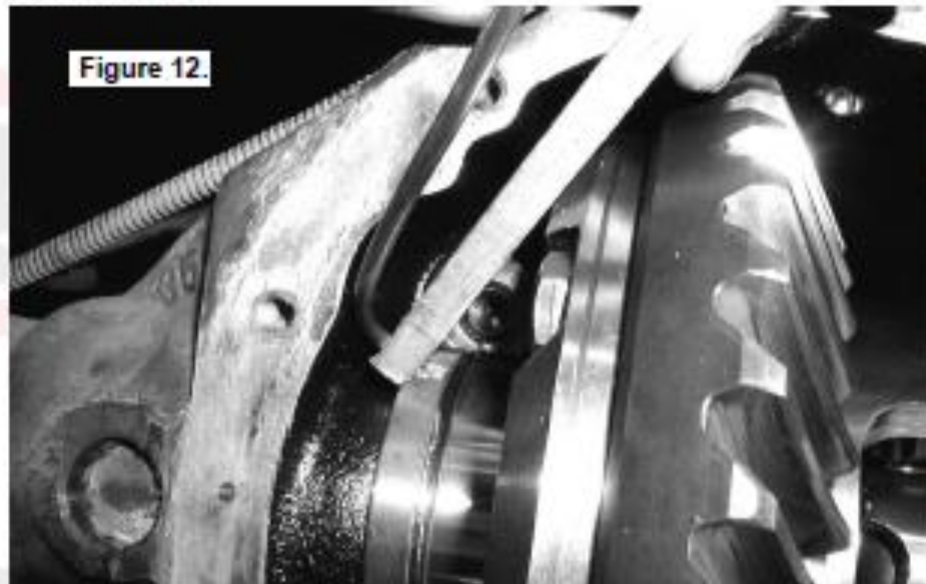

Figure 12.
- ☐ Using a soft instrument such as a wooden drift, bend the seal housing tube outward and away from the position of the bearing cap. (Fig.12.)